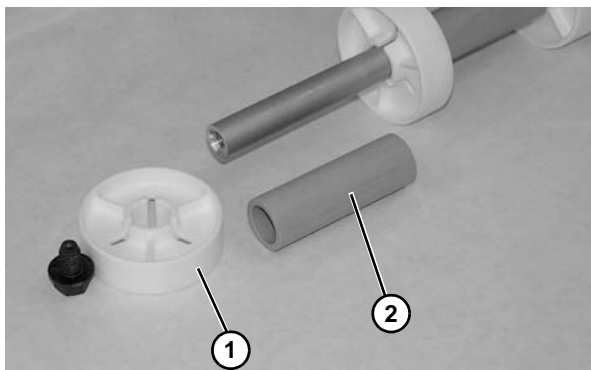

Figure 83
10. Remove idler pucks (**Figure 83, item 1**) and tube spacers (**Figure 83, item 2**), as needed, from each side of assembly.